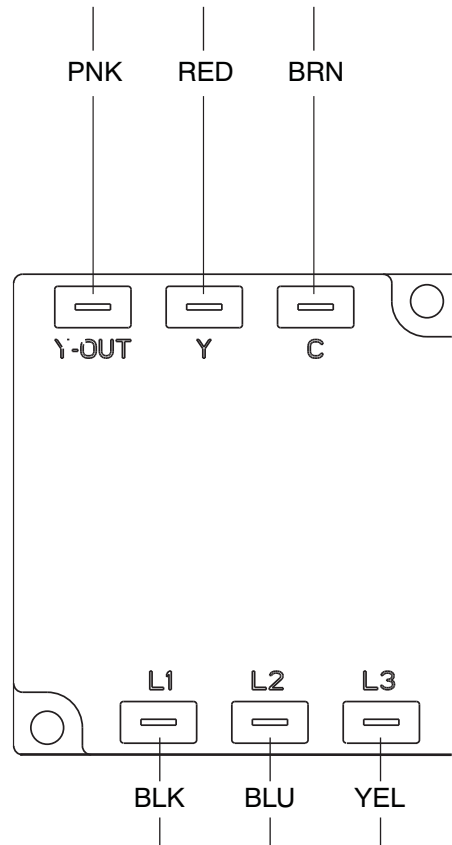

Fig. 5 - Phase Monitor Module Detail (575V)
b. **For 575V** - Route the wiring harness along the top of the control box connecting the pink wire to the “Y-OUT” spade connector, the red wire to the “Y” spade, and the brown wire to the “C” spade of the phase monitor module. (See Fig. 5.)